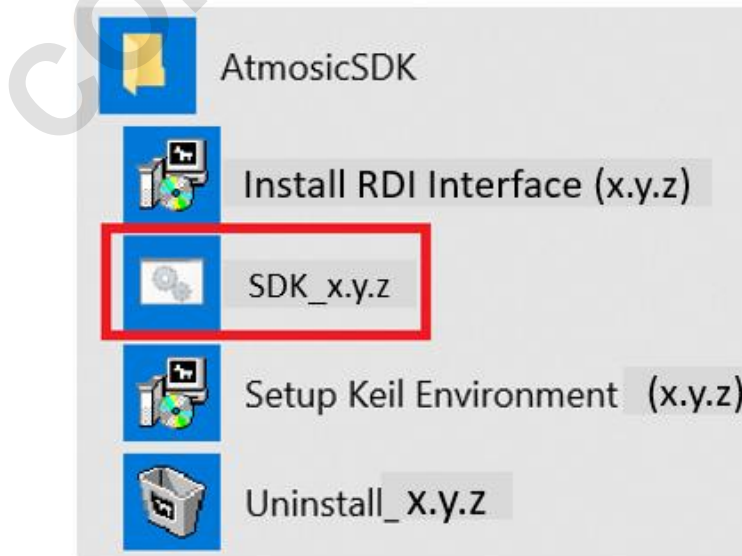

Figure 16 - Start Menu
- Figure 16 - Start Menu
Open MSYS2 shell from Windows menu, "Start Menu" → "AtmosicSDK" → "SDK_[version_number]". Figure 16 shows the Start Menu.